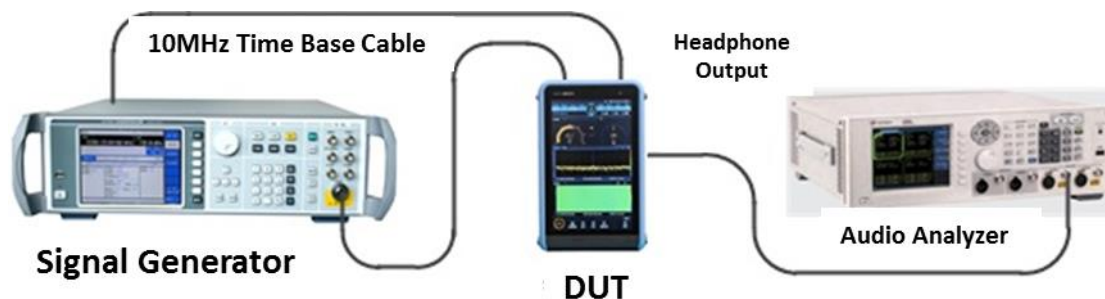

Fig. 8.7 Schematic diagram of AM demodulation sensitivity test
1) Connect the test equipment according to Fig. 8.7, the equipment to be tested and the synthesized signal generator common time base; the headphone interface of the equipment to be tested is connected to the input channel interface of the audio analyzer.